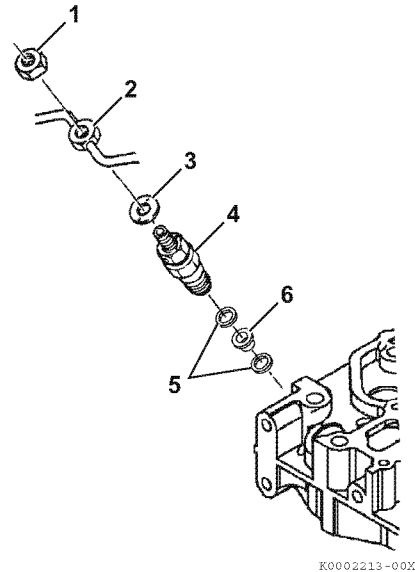

Figure 7-27
5. Remove nut (**Figure 7-27, (1)**). Remove the fuel return line (**Figure 7-27, (2)**) and copper washer (**Figure 7-27, (3)**) from the fuel injectors. *See Removing the Fuel Return Line on page 7-11.*
6. Remove the fuel injectors (**Figure 7-27, (4)**).
7. Remove the injector nozzle gaskets (**Figure 7-27, (5)**) and protector (**Figure 7-27, (6)**) from the cylinder head.